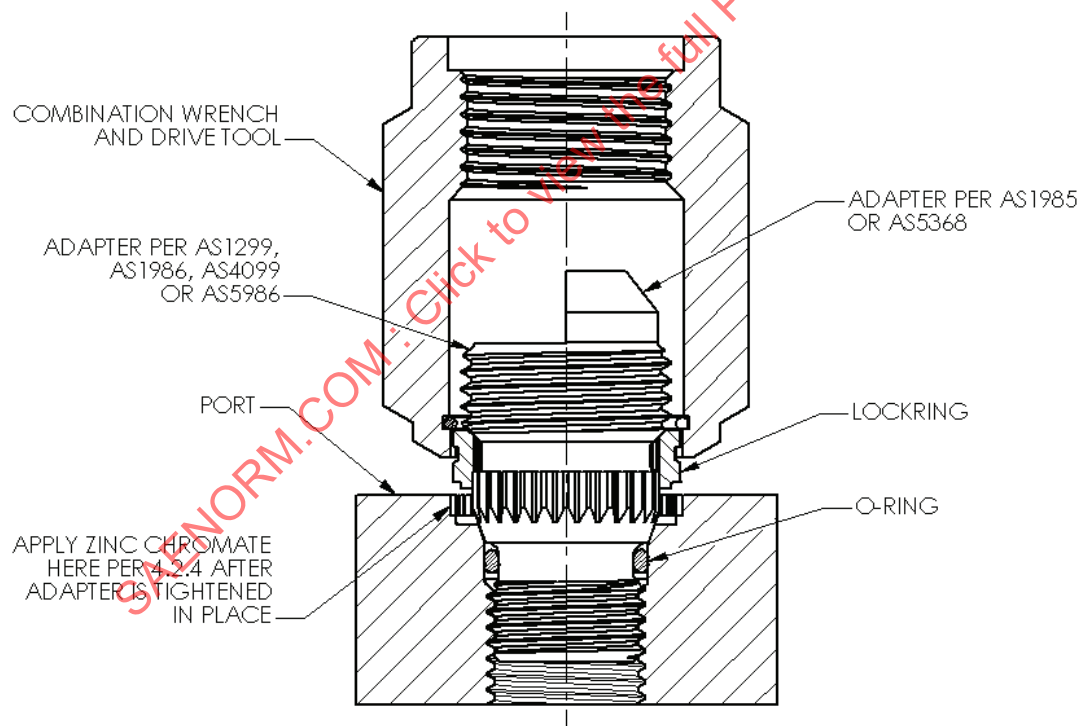

FIGURE 3 - TORQUING ADAPTER ASSEMBLY
- 5.2.3 Using the applicable combination wrench and drive tool in Table 3, engage the serrations of the tool with the external serrations of the adapter locking per Figure 3. Place a torque wrench of the proper size over the hex of the wrench and apply a torque equal to the minimum value specified in Table 3. Note the relationship of the locking serrations with respect to the prebroached serrations in the port. If they match, proceed to 5.2.4. If the locking serrations do not match the prebroached serrations in the port, continue to slowly torque the adapter toward the maximum value allowed in Table 3 until the serrations match. This will normally take between 3 degrees and 8 degrees of turning, the maximum value need not be reached if the serrations align themselves prior to that value. Do not exceed maximum torque values.